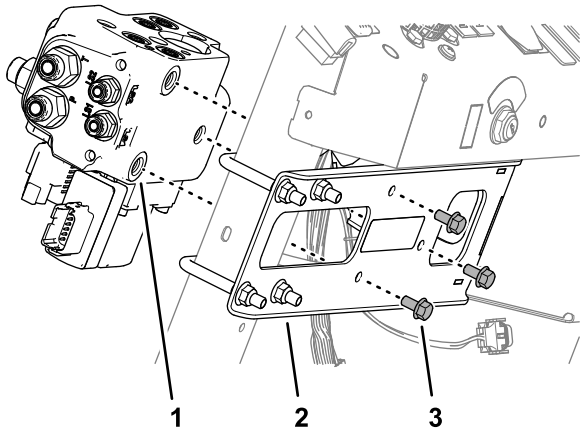

Figure 81
1. Align the holes in the body of the EHI steering valve with the holes in the manifold mount (Figure 81).
2. Secure the valve to the mount (Figure 81) with 3 flange-head capscrews (8 x 16 mm).